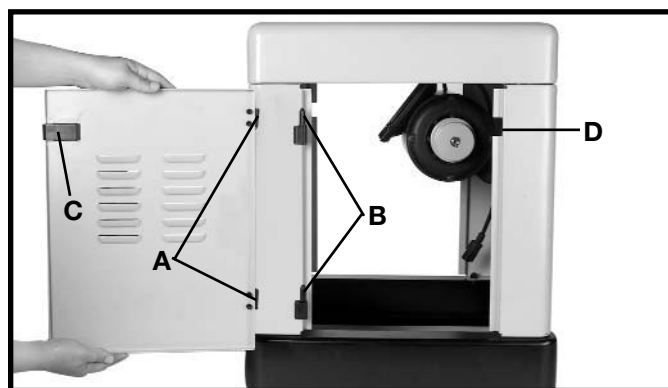

Fig. 9
20. Slide the two hinges (A) Fig. 9 of the door over the hinge catches (B), on the stand.
21. Close the door until the door latch (C) Fig. 9, engages with the side (D).